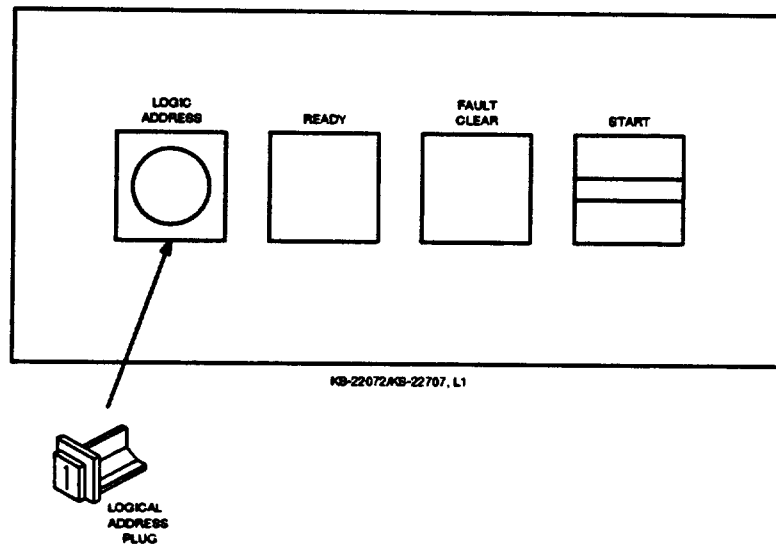

Figure 4. KS-22072, L1 Operator Control Panels
2.07 Figure 4 illustrates the L1 operator control panels.